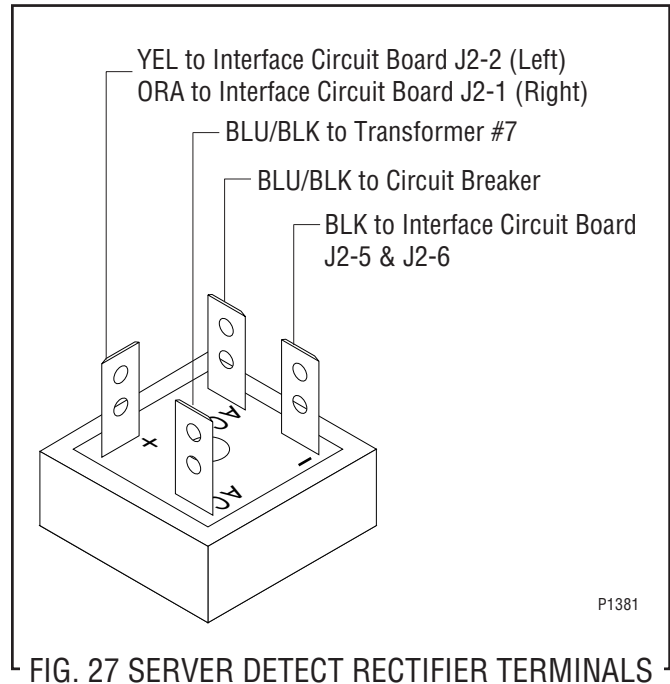

FIG. 27 SERVER DETECT RECTIFIER TERMINALS
5. Refer to Fig. 27 & 28 when reconnecting the wires.